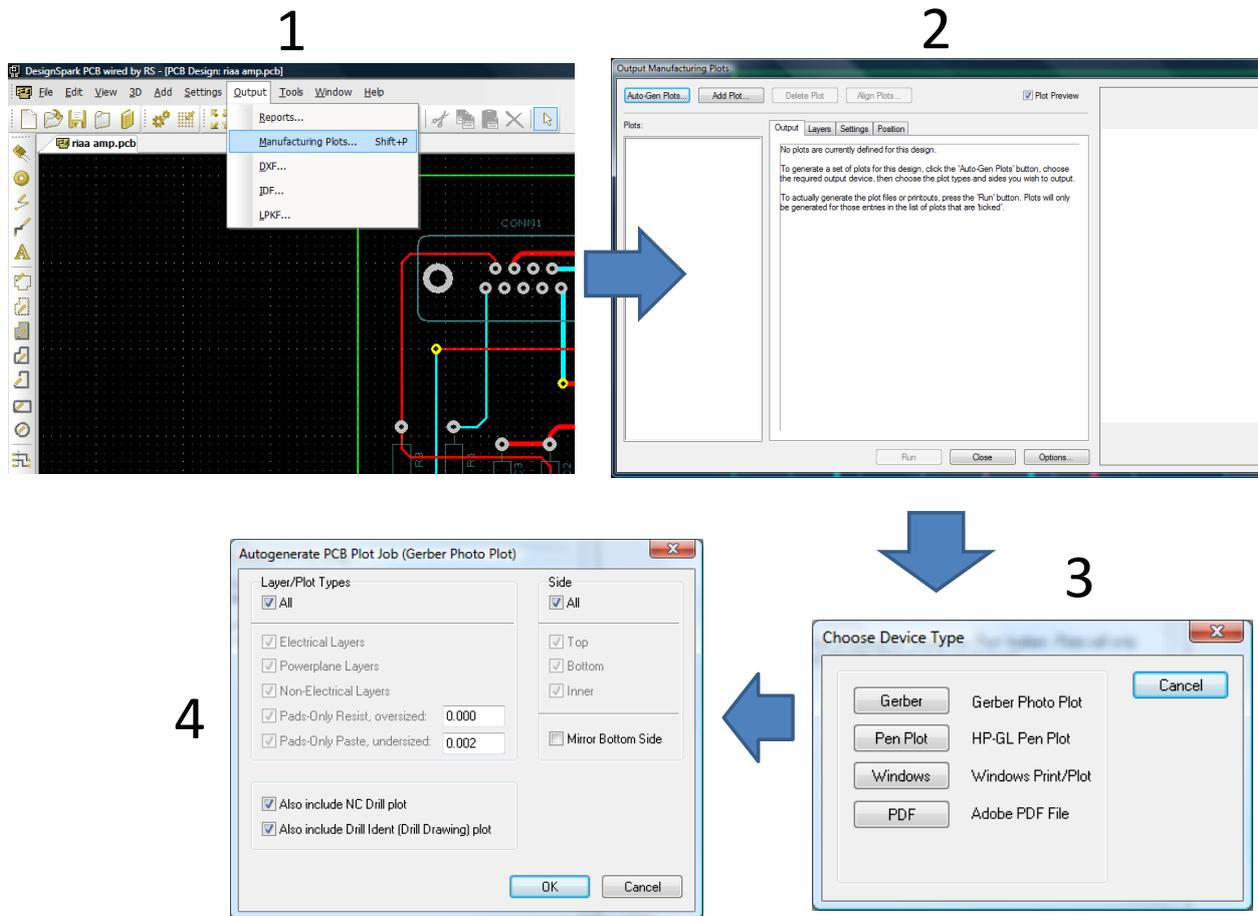

Figure 6-8: Manufacturing Files 1
2. To output the Gerber files, select “Output” - “Manufacturing plots” or press <Shift-P> as shown in Figure 6-8 (image 1).